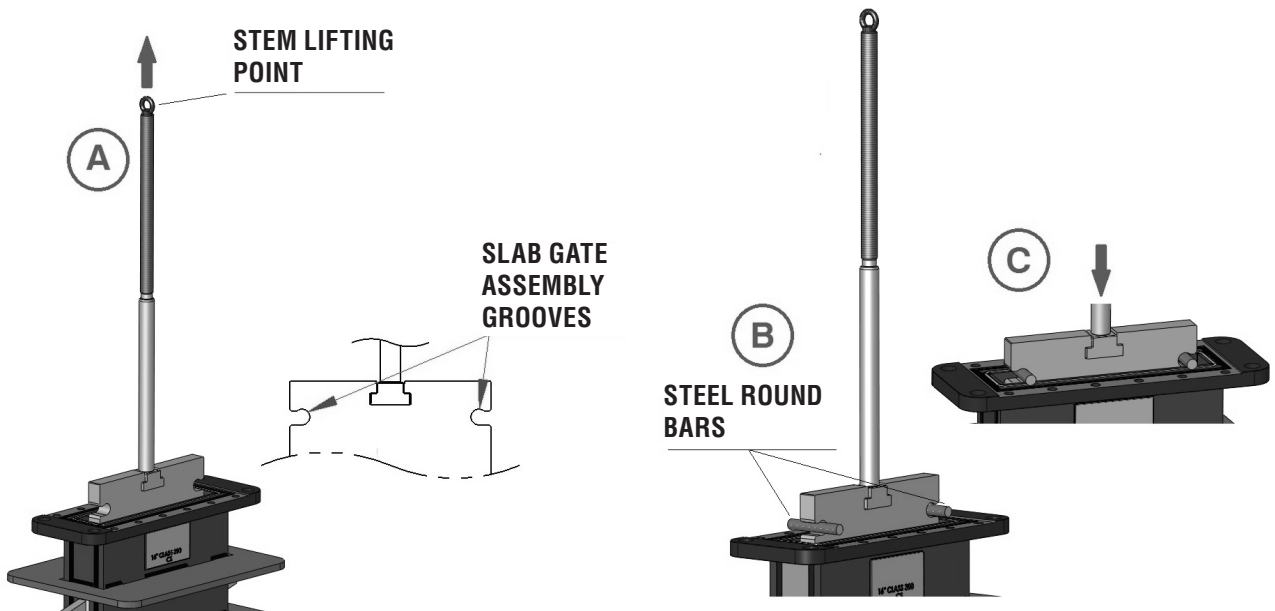

Figure 11 - Slab gate disassembly according to steps n° 12, 13 and 14.
12. Screw an eyebolt into the tapped hole on the top of the stem and fasten it and lift the stem and gate assembly till the two grooves in the upper side of the gate will be accessible from the top of the body (Figure 11 - A)
13. Insert two steel bars in the two groove of the gate (Figure 11-B)
14. Pull down the assembly till until the steel bars lean on the valve body (Figure 11-C)